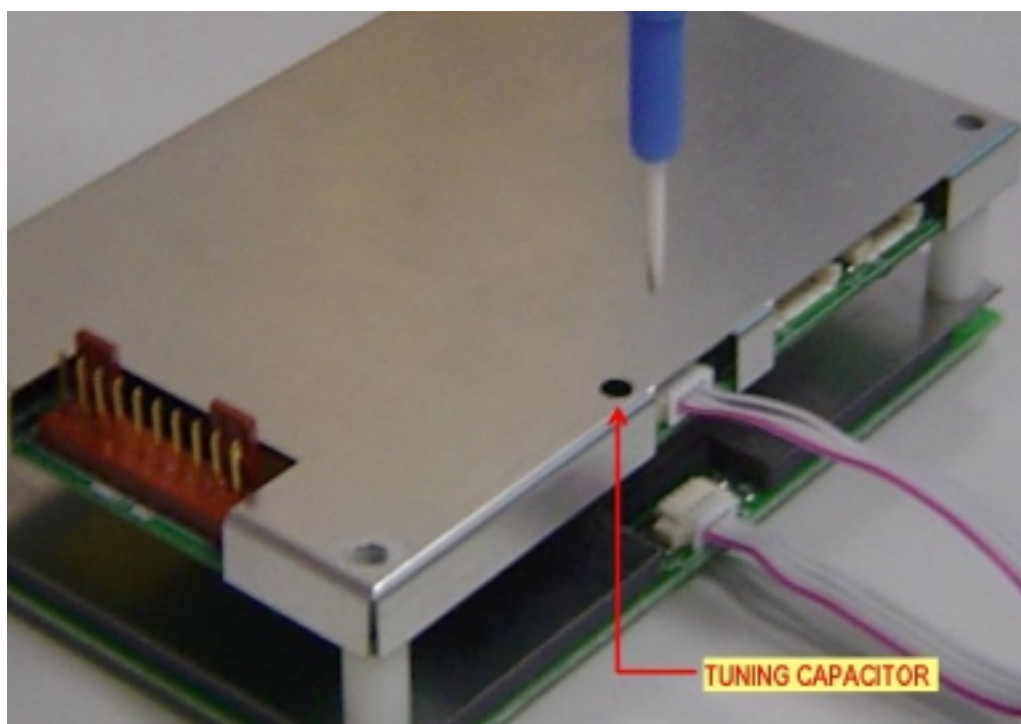

Figure 10: Location of tuning capacitor CV1
- It should be possible to tune the reader using the tuning capacitor shown in Figure 10 while leaving the antenna PCB fixed to the product. The product should ideally be designed to permit re-tuning once the MCR is fitted.